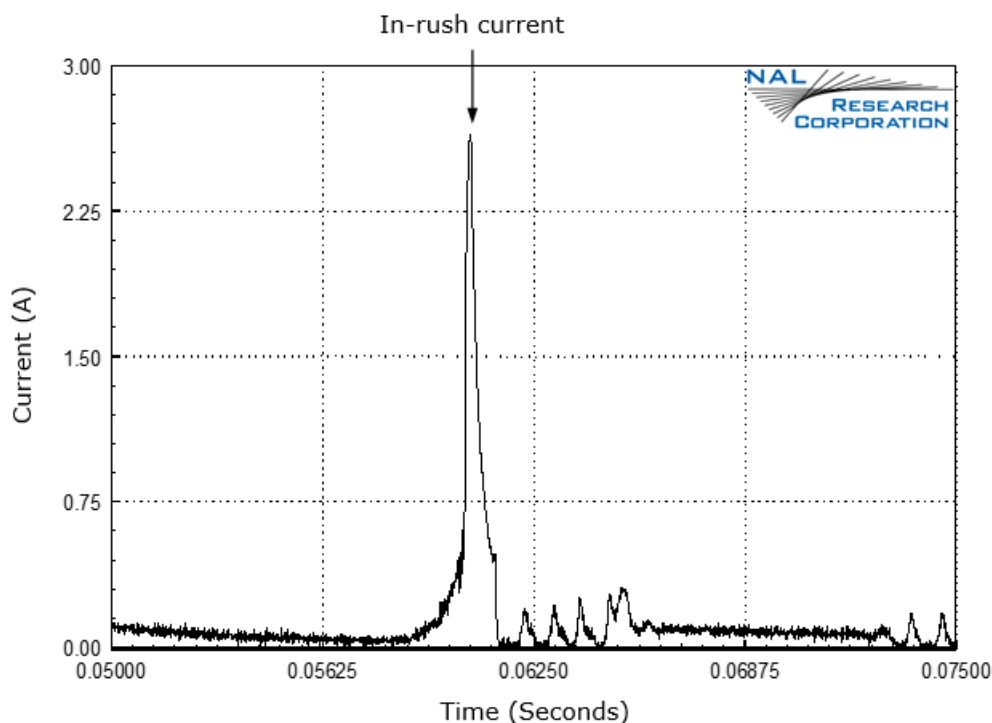

Figure 23: In-Rush Current Spike During Power-Up: Command Mode (5 VDC Input)
Power consumption of the 9602-LP can be divided into distinct operating segments: (1) power up, (2) standby, (3) sleep between reports, (4) GPS acquisition, and (5) SBD report transmission. When turned on in command mode, typical in-rush current of approximately 3 A–4 A over a few milliseconds is mainly due to the current drawn by the 9602 (see **Figure 23**).